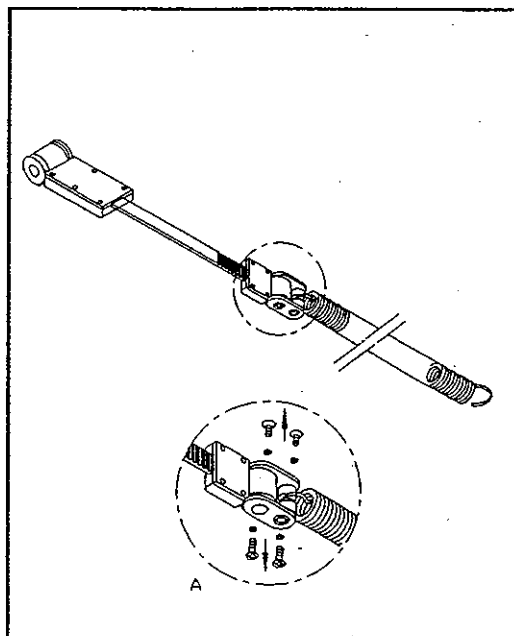

Fig. 11
10. Find the connector which connects the belt and the spring. Then, unscrew the two screws and washers on both sides of the connector (see Fig. 11).